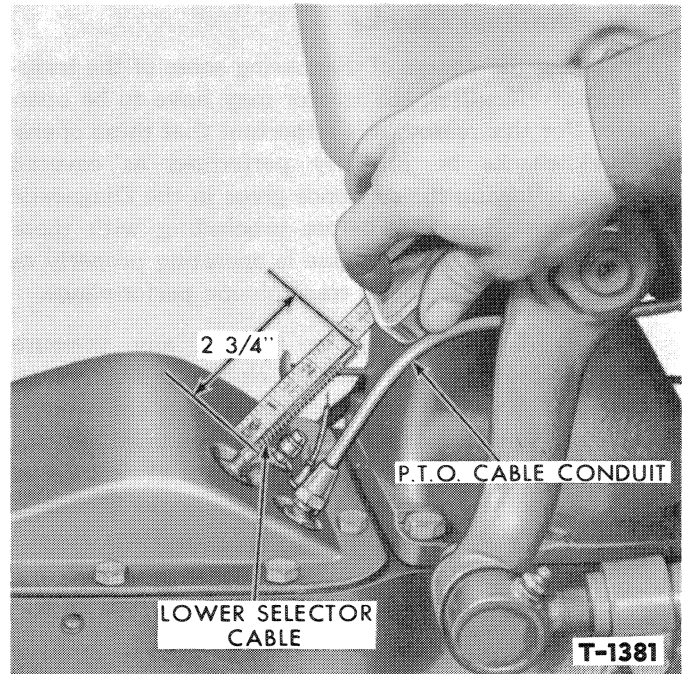

Figure 136—Installing Lower Selector Connector Cable
6. Tighten the cover bolts and recheck the cable for freedom of rotation. Turn the cable as required to obtain a length of $2\frac{3}{4}$ " from the top of the fitting to the upper side of the notch in the cable connector, as shown in Figure 136. With the control valve in the (P) park position, this measurement will synchronize the control valve to the selector assembly.
7. Install the selector assembly with the selector lever in tenth speed. Attach the wires to the safety switch and selector lamp and connect the two flexible cables together. Now move the selector lever to the (P) park position which should bring the conduit down to contact the fitting in the cover.